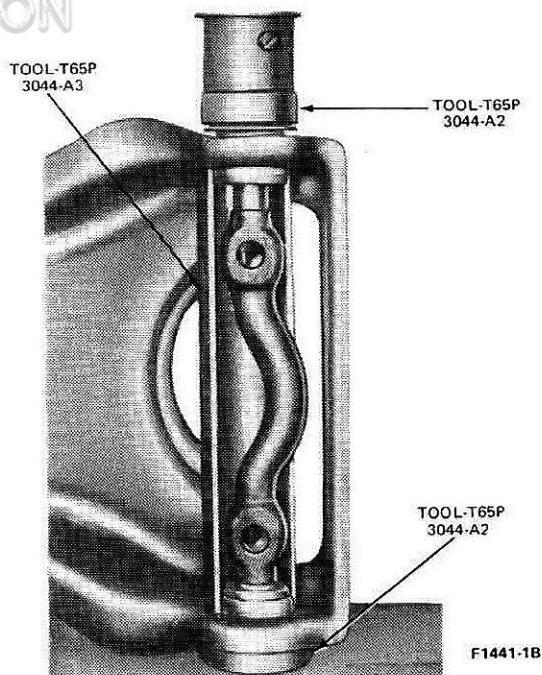

FIG. 7 Installing Upper Arm Shaft Bushing—Typical
5. Using tool as shown in Figure 7, position the shaft and bushings to the upper arm and install the bushings and inner shaft in the upper arm. Be sure that the inner pivot shaft is positioned so that the serrated side will contact the frame.